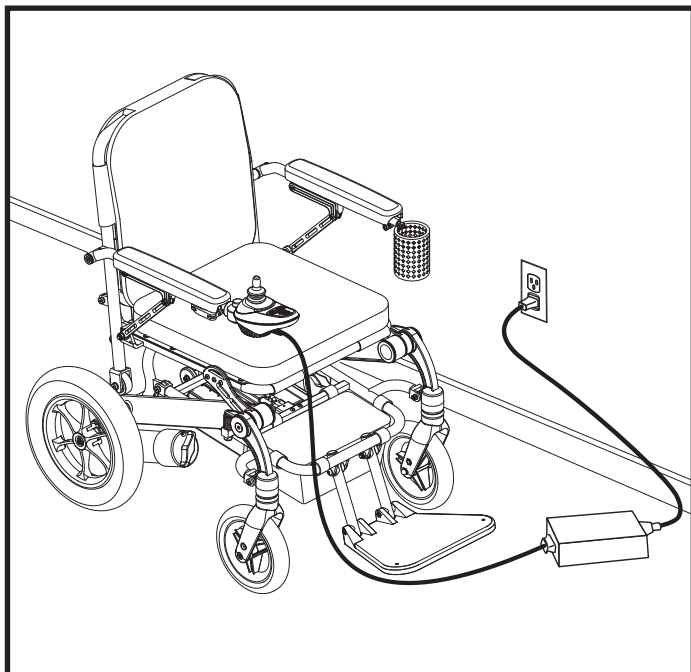

Figure 13. Battery Charging using the Off-board Charger
3. Plug the off-board charger into the off-board charger/programming socket of the controller. **See figure 13.**